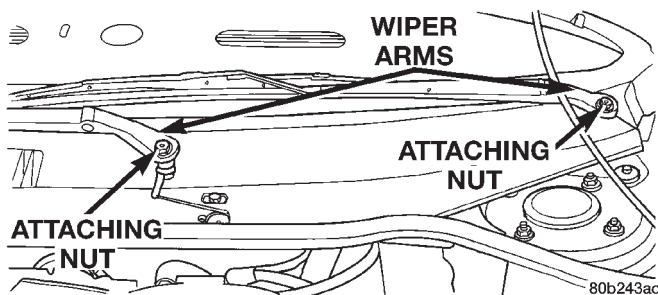

Fig. 17 Wiper Arm Attachment To Pivot
(2) Position the front tires of the vehicle so that they are facing straight ahead.
(3) Raise the vehicle on a frame contact type hoist until the front tires of the vehicle are just off the floor. See Hoisting in the Lubrication and Maintenance section of this manual for the required lifting procedure to be used for this vehicle.
(4) Remove caps from both wiper arms at the attachment to the pivots to expose the wiper arm attaching nuts. Remove the nut (Fig. 17) attaching each wiper arm to its pivot.